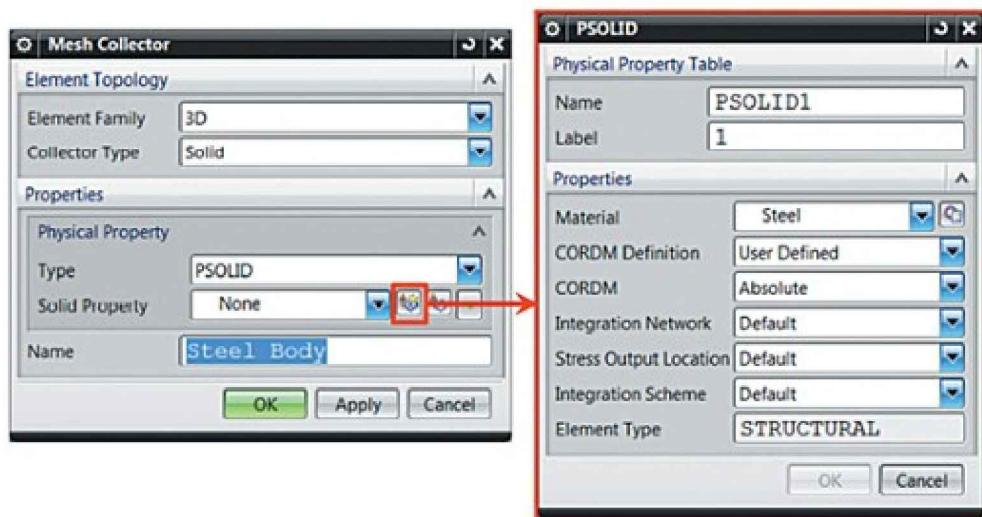

Figure 3.7. Creating a collector
The **Mesh Collector** dialog box contains the following parameters (Figure 3.7):
- In the *Properties* group, select a *Type* (in the case of 2D elements you can choose thin shell or multi-layer shell) and proceed to create *Solid properties* (for 3D family) or select existing properties from the list. To create new body properties, open the dialog box as shown in Figure 3.7. The content of this window changes depending on the families and types of elements selected.